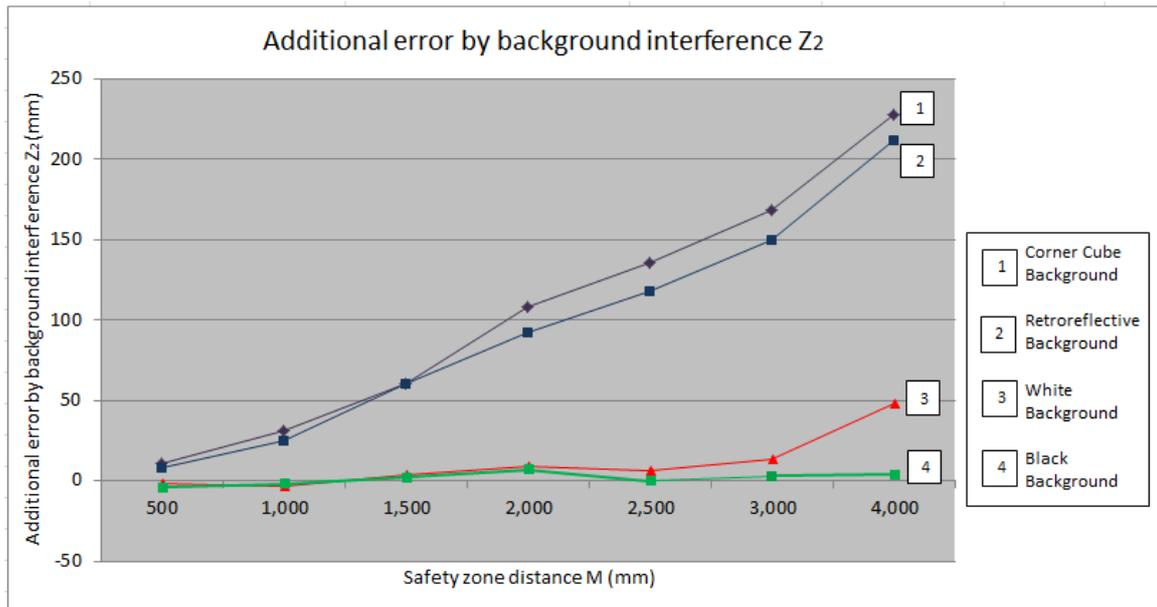

Fig. 7-3 Additional error by background influence
1. Use Fig. 7-3 to calculate the additional error  $Z_2$  for the safety zone distance  $M$ .
3. If the dimension above satisfies the condition (1) or (2), add  $Z_1$  and  $Z_2$  to the value for the safety zone range. If neither condition is satisfied, add  $Z_1$  without adding  $Z_2$ .